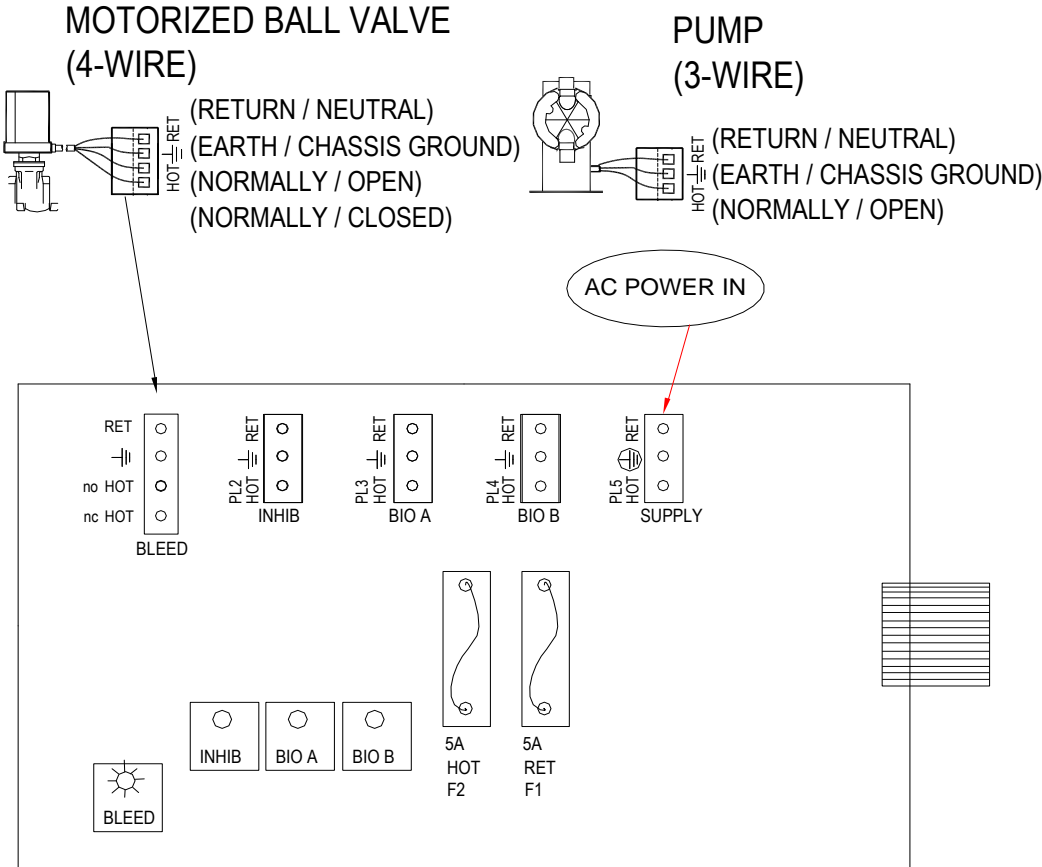

Fig. 6
The *MicroVision* electronic input circuitry is fuse protected on both the hot and neutral inputs using a replaceable five amp fuse (*Fig .6*).
Conduit controllers have openings for conduit connections for hard wiring. (See Fig. 6) for input and output power connections. Use only 18 AWG (1,2 mm²) stranded wire for conduit power and load connections. Supply (input) power is connected via **PL5** located on the relay board (Fig. 6). The top part of this terminal block is removable to allow for easy access to the connector's three (3) screws.
The low voltage connections are found on the low voltage (right side) board (Fig. 6). Use 22-24 AWG (.76 mm²) wire for: flow switch, drum levels, dry alarm, and water meter connections. These signal wires must be run separate from AC power lines.